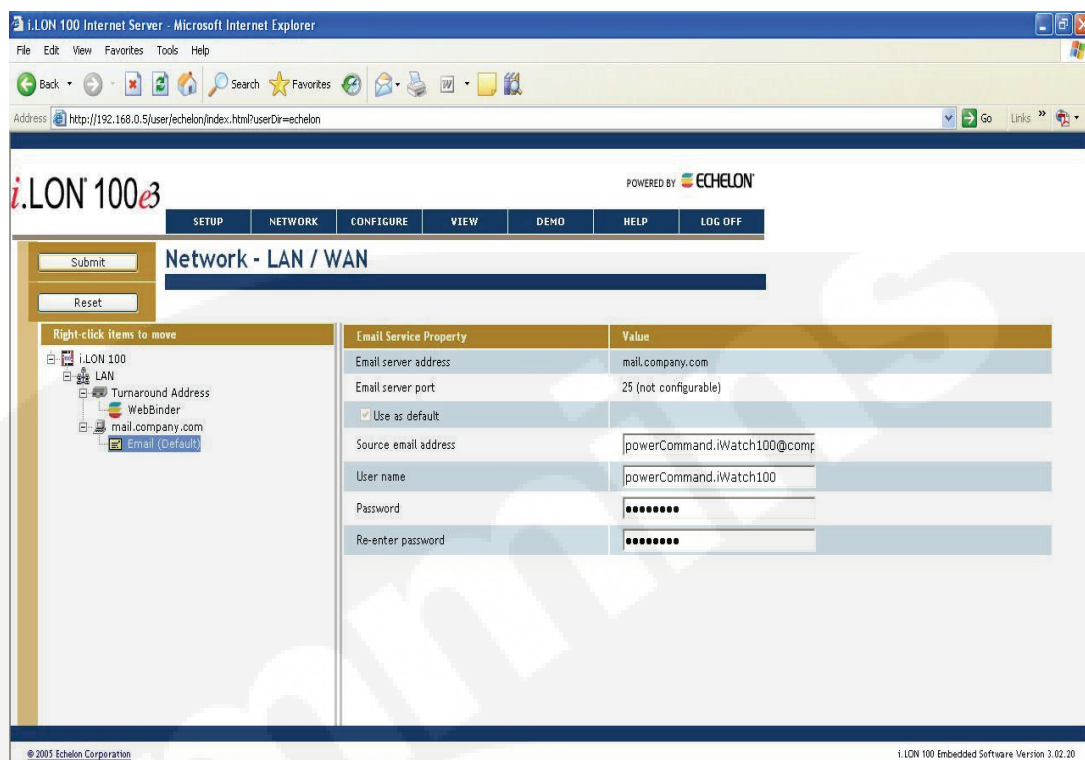

FIGURE 4-35. E-MAIL DEFAULT OPTION
6. When you are finished, click **Submit** for all changes to take effect. The requested information is displayed (see Figure 4-35).